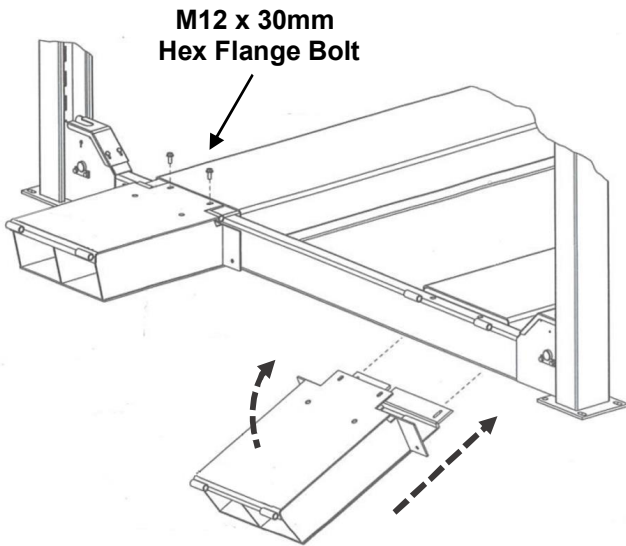

Fig. 4
- 3) Install LH & RH Runway Extensions to runways by rotating the Extension upwards, while keeping the support plate against the bottom of runway, followed by pushing the Extension towards the lift to align bolt holes to secure to runway, **Fig. 4**.
- 4) With bolt holes aligned, use M12 Flange Nuts to secure Extension's upper section to the threaded holes in runway and M10 hardware to secure Support Plate to the underside of runway, **Figs 4 & 5**.